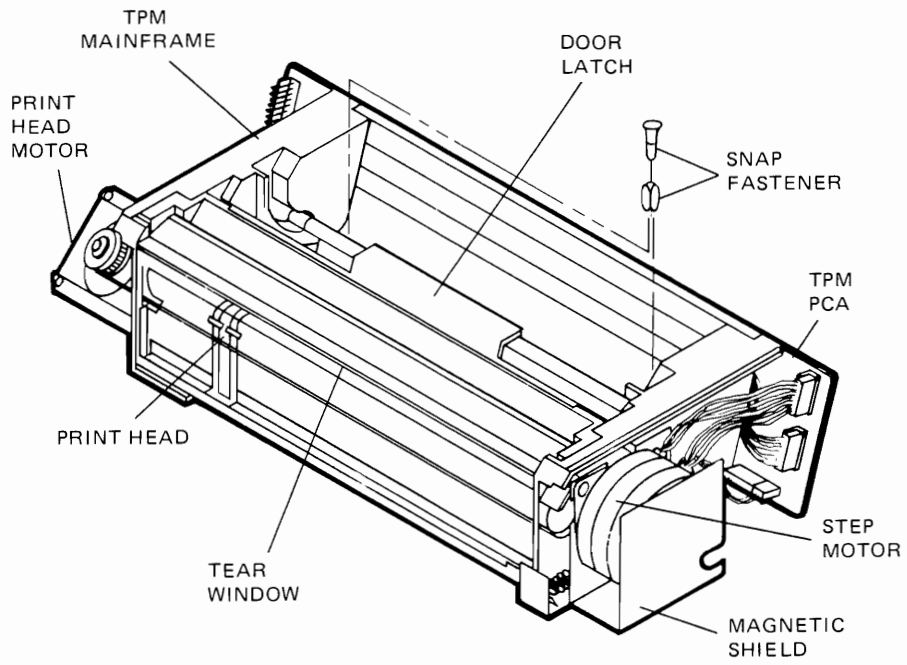

Figure 7-13. TPM Removal
2. Use an IC removal tool and unsnap the two snap fasteners securing TPM to mainframe (see figure 7-13).
3. Use an IC removal tool and unsnap the two snap fasteners securing the TPM to the mainframe (see figure 7-13).